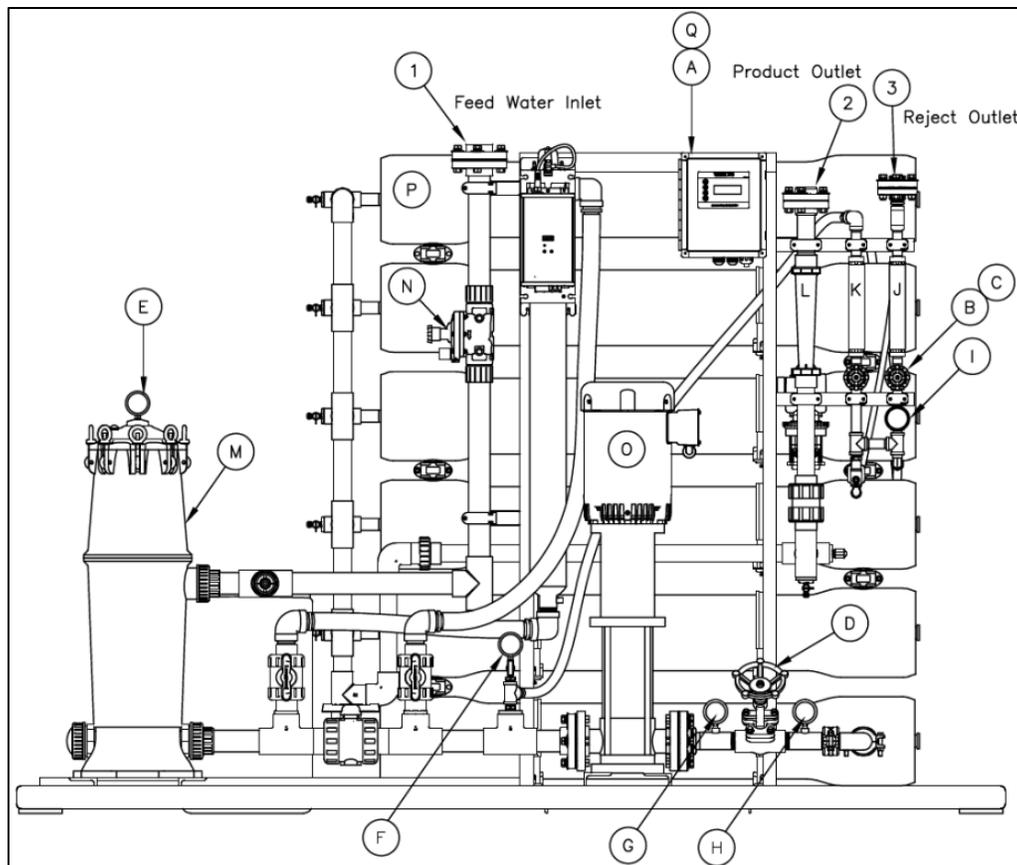

Figure 2-2: WQRS-030-R, -060-R System Components
2. Close the pump discharge completely then open it one turn. (Figures 2-2 and 2-3, item D).
4. Open reject control valve by turning counterclockwise (Figures 2-2 and 2-3, item B).
5. Close the reject recycle control valve completely by turning it (Figures 2-2 and 2-3, item C).
10. Adjust the reject and reject recycle control valves (Figures 2-2 and 2-3, items B and C), and the pump discharge valve (Figures 2-2 and 2-3, item D) until the desired flows are achieved. Closing the reject valve increases the recycle and product flow and decreases the reject flow. Closing the reject recycle valve increases the reject and product flow and decreases the recycle flow. Opening the pump discharge valve increases all of the flows. See the temperature correction table in the appendix to determine the flow rates for different operating temperatures.